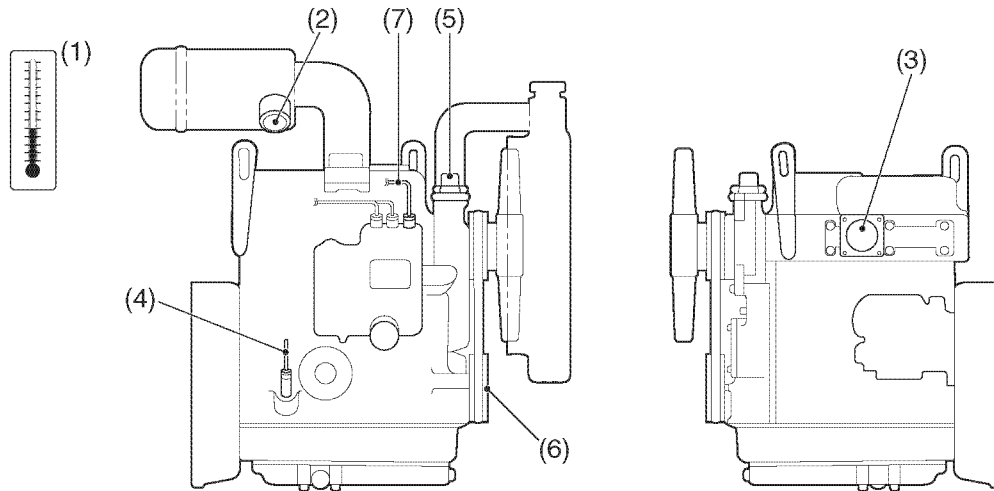

Figure 12-1
See (Figure 12-1, (1)):
See (Figure 12-1, (2)):
See (Figure 12-1, (3)):
See (Figure 12-1, (4)):
See (Figure 12-1, (5)):
See (Figure 12-1, (6)):
See (Figure 12-1, (7)):
See (Figure 12-1, (8)):